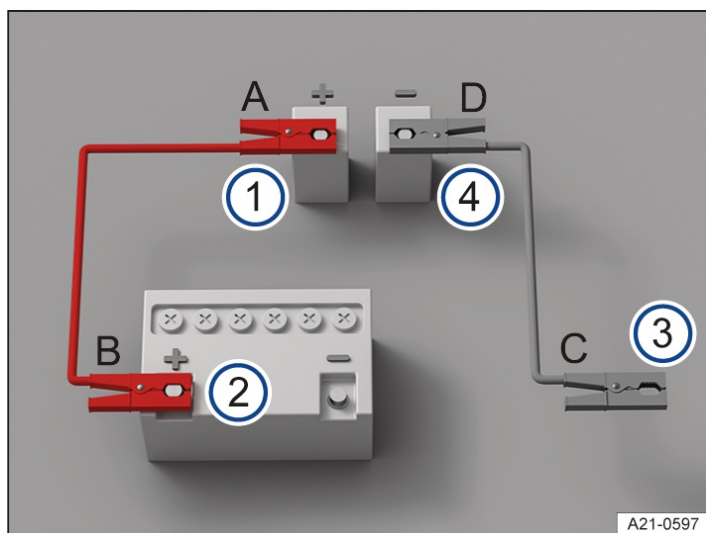

Fig. 2 Diagram showing how to connect jump leads in vehicles with a 12-volt vehicle battery in the vehicle interior.
Connect the jump leads only in the order A – B – C – D → Fig. 2.
3. Connect one end of the red jump lead to the positive jump-start connection point⁺ of the vehicle with the discharged 12-volt vehicle battery → Fig. 2 ① → ⚠.
4. Connect the other end of the red jump lead to the positive battery terminal⁺ of the vehicle providing assistance → Fig. 2 ②.
5. Connect one end of the black jump lead to an earth jump-start connection point⁻ on the vehicle with the 12-volt vehicle battery providing assistance → Fig. 2 ③.
Or: if no earth jump-start connection point⁻ is present, connect the end of the black jump lead to a solid metal part that is securely bolted onto the cylinder block or to the cylinder block itself on the vehicle with the 12-volt vehicle battery providing assistance → Fig. 2 ③.
6. Connect the other end of the black jump lead to the earth jump-start connection point⁻ on the vehicle with the discharged 12-volt vehicle battery → Fig. 2 ④ → ⚠.
3. After jump starting, the jump leads should be removed only in the order D – C – B – A → *Fig. 1* or → *Fig. 2*.